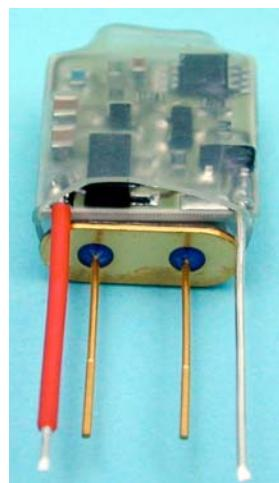

Fig. 2
2. Warm the heat shrink tubing to hold the circuit next to the crystal (Fig. 2), ensure that the temperature is not too high.
Bild / Figure 2